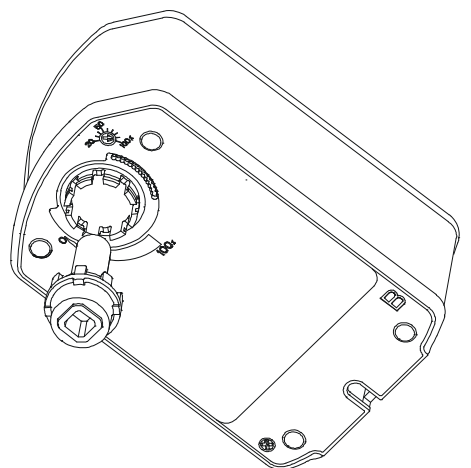

Figure 6: Inserting the Drive Shaft
4. Insert the drive shaft into Side B (Figure 6).